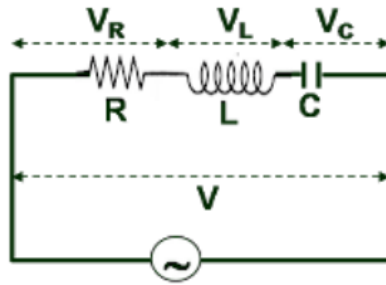

Figure 7. R-L-C series series
1. Arrange the circuit as Figure 7 using the previous resistance, inductor, and capacitor.